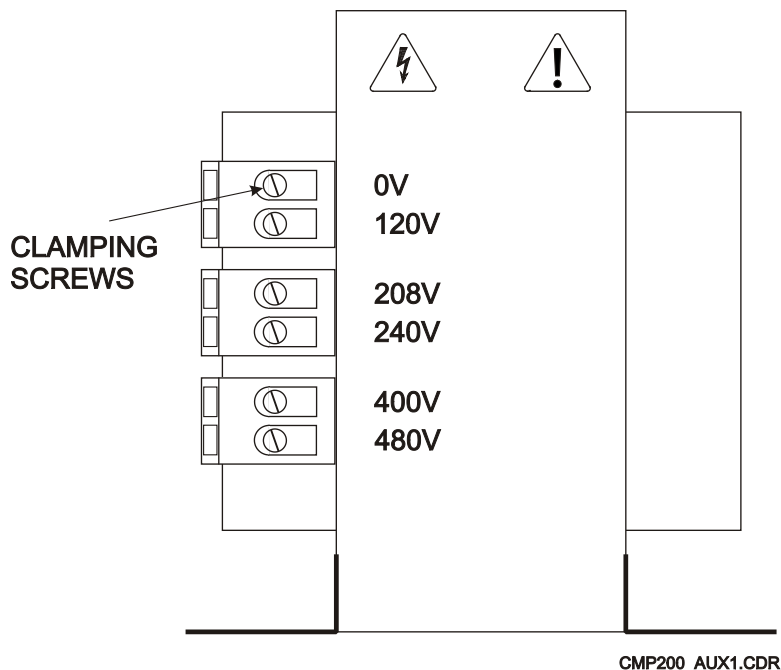

Figure 2-12: Auxiliary transformer, terminal view
3. Note the line-voltage tap position on this transformer as determined by the location of the wire on the 208V or the 240V tap on the transformer primary. This is normally set to the 240V tap. Refer to figure 2-12.
3. Note the line-voltage tap position on this transformer as determined by the location of the wire on the 400V or the 480V tap on the transformer primary. This is set to the 400 or 480V tap to match the line voltage specified at the time of the order. Refer to figure 2-12.